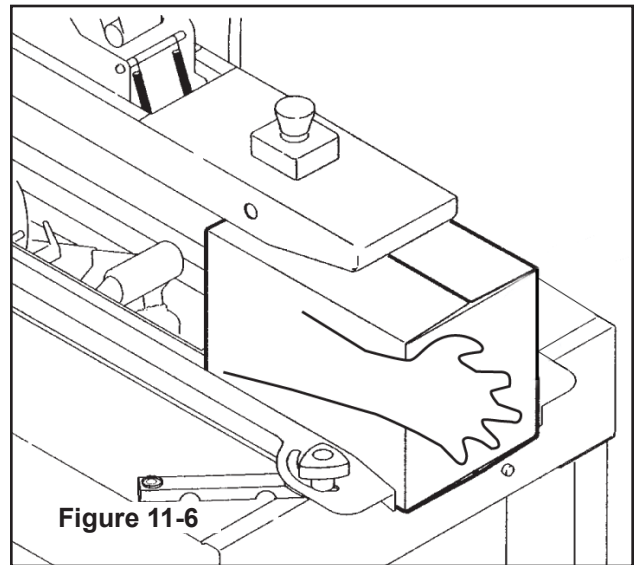

Figure 11-6
11.5 Run Boxes to Inspect Adjustment (Figure 11-6)